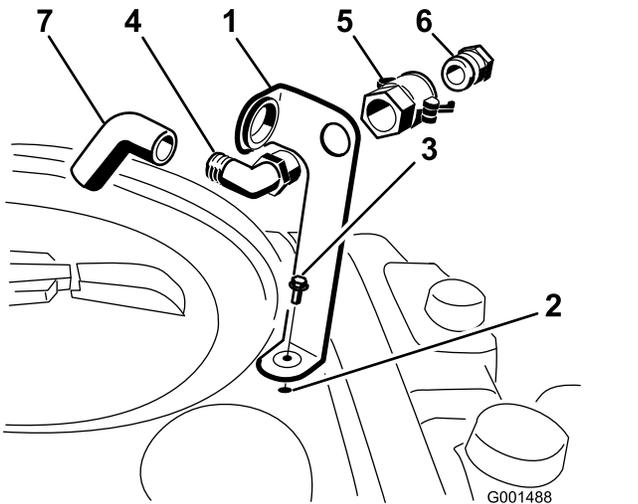

Figure 3
1. Place the fill receptacle bracket over the threaded hole in the tank and secure it with a flange-head bolt (5/16 x 3/4 inch) (Figure 3).
2. Place the threaded end of the 90° elbow fitting through the bracket and thread the quick coupler onto it, securing it to the bracket (Figure 3).
3. Install the hose adapter into the quick coupler (Figure 3).
4. Lock the adapter into place by swinging the levers toward the adapter and then secure them with the hairpin cotters (Figure 3).
5. Install the anti-siphon hose through the large opening on the bracket and onto the barbed end of the 90° elbow fitting (Figure 3).